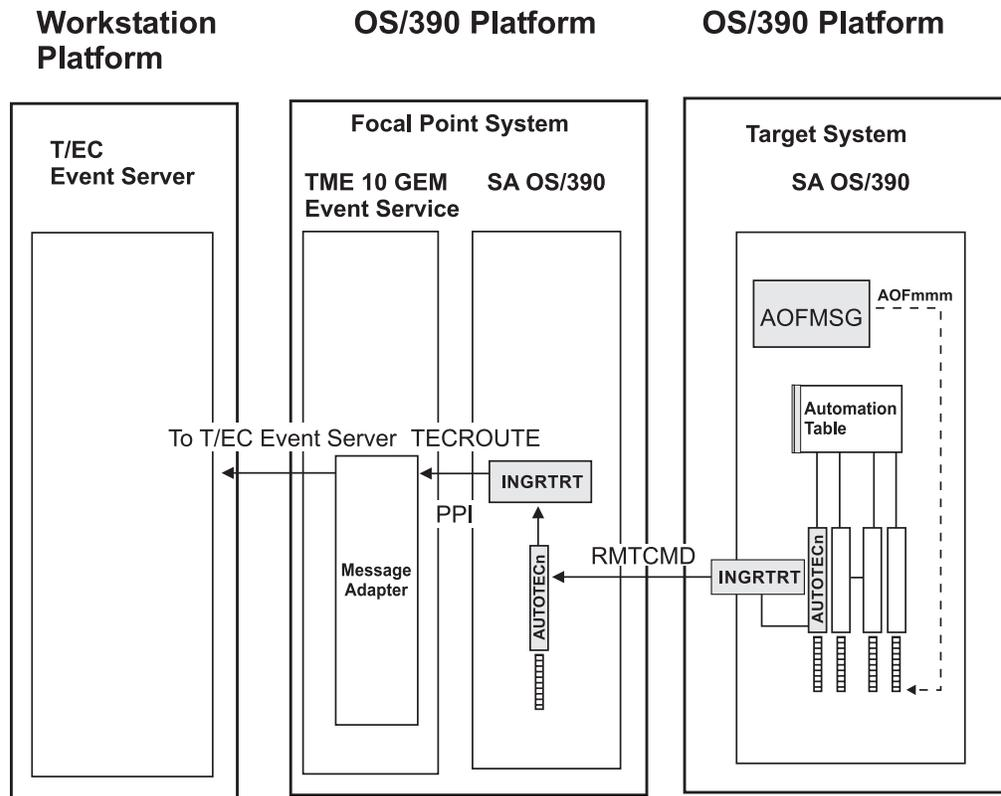

Figure 17. Distributed Configuration: Tivoli GEM Event/Automation Service remote to the SA OS/390 Source of Messages
- **distributed configuration:** The message adapter or alert adapter is running on an OS/390 system different from the one on which SA OS/390 is running and issuing messages and alerts. In this scenario, the OS/390 system running the adapters must be the SA OS/390 automation focal point system. Such a configuration for message forwarding is illustrated in Figure 17 on page 54.